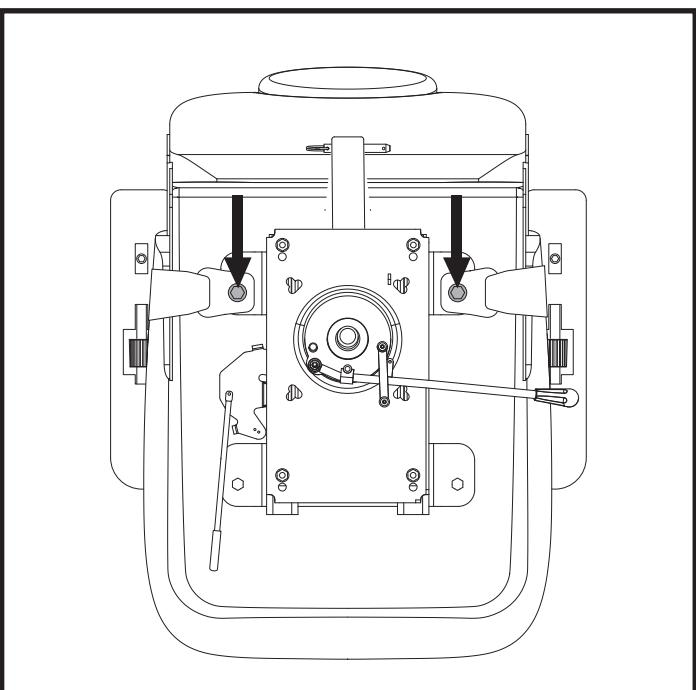

Figure 16. Positioning Belt Bolts
2. Place the seat upside down so that you can see the bottom of the seat base. See **figure 16**.